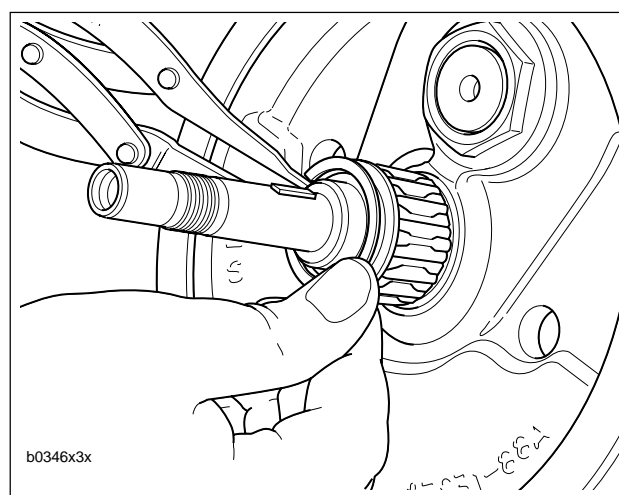

Figure 3-139. Pinion Shaft Bearing
12. See Figure 3-139. Install pinion shaft bearing.